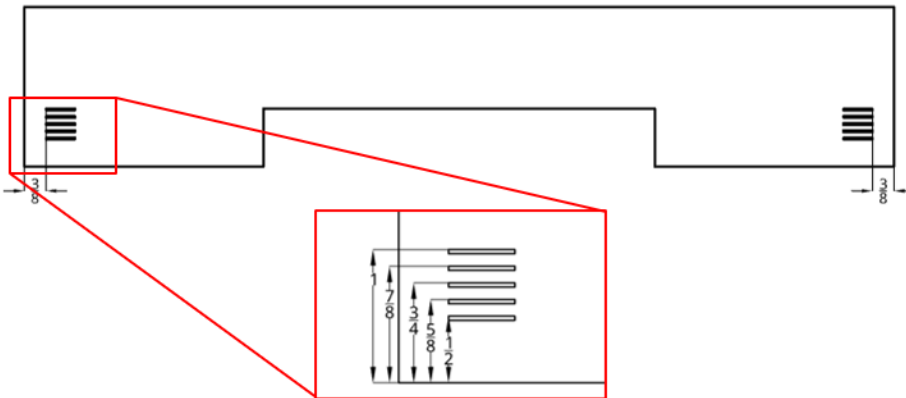

Figure 14. Manufacturing Step 12
12. Using a laser cutter or Dremel, make 5 rectangular cutouts of dimension $\frac{1}{32}$ " by $\frac{1}{2}$ " that are each $\frac{3}{32}$ " apart. The first cutout should be 0.5" from the end of the plate, and the fifth should be 1" from the end. The cutouts should be $\frac{3}{8}$ " in from the outer ends of the plate. See figure 14 for details.